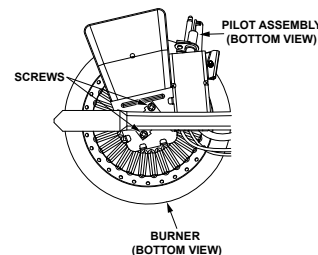

FIGURE 34.
1. Take off the burner by removing the two (2) screws located underneath the burner. **IMPORTANT:** DO NOT remove the orifice.
2. Check the burner to see if it is dirty or clogged. The burner may be cleaned with soap and hot water (Figure 34).
2. Natural Gas/LP Models - Remove the burner to access the pilot/thermopile assembly. Remove and keep the screws securing the burner to the manifold (Figure 34).
8. Using the pilot/thermopile assembly screw removed earlier reattach the new pilot/thermopile assembly. Reattach the burner to the manifold using the screws removed earlier. NOTE: make sure the burner scoop is oriented to the pilot side of the manifold tube (Figure 34).